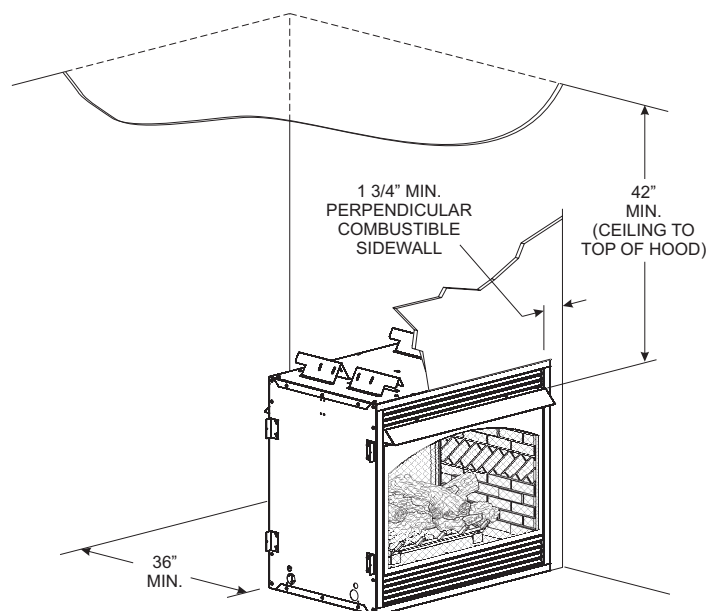

Figure 4a - See Through Fireplace Clearances
**Sidewall Clearances:** The clearance from the inside of the fireplace to perpendicular combustible side wall should not be less than 1 3/4". See Figures 4a and 4b.